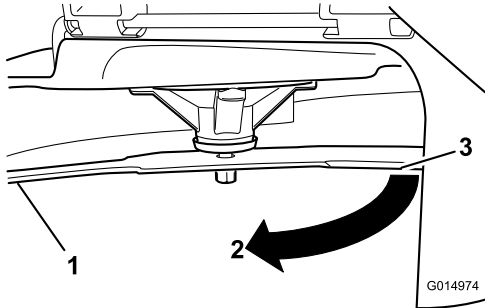

Figure 107
3. Second measured distance between blade and surface (B)
4. Rotate the same blade 180 degrees so that the opposing cutting edge is now in the same position (Figure 107).